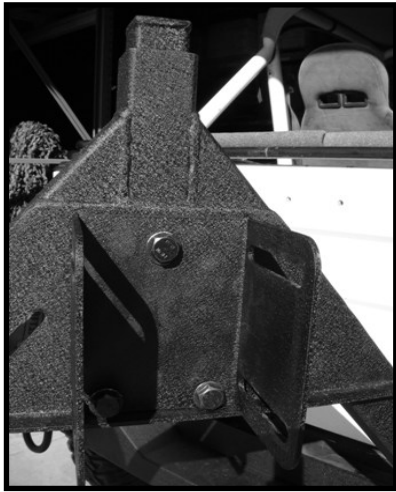

Figure 15.
13. Open the tire carrier and place the adjustment hub up to tire carrier A-frame and align the 3 holes. Using 3 of the supplied M12 x 30 bolts and washers, insert through the tire carrier and the adjustment hub (Figure 15). Using 3 more washers and 3 nyloc nuts, place the washers over the bolt and thread the nyloc nuts onto the bolts (Figure 16). Tighten using a 3/4" wrench and 18mm socket and ratchet.